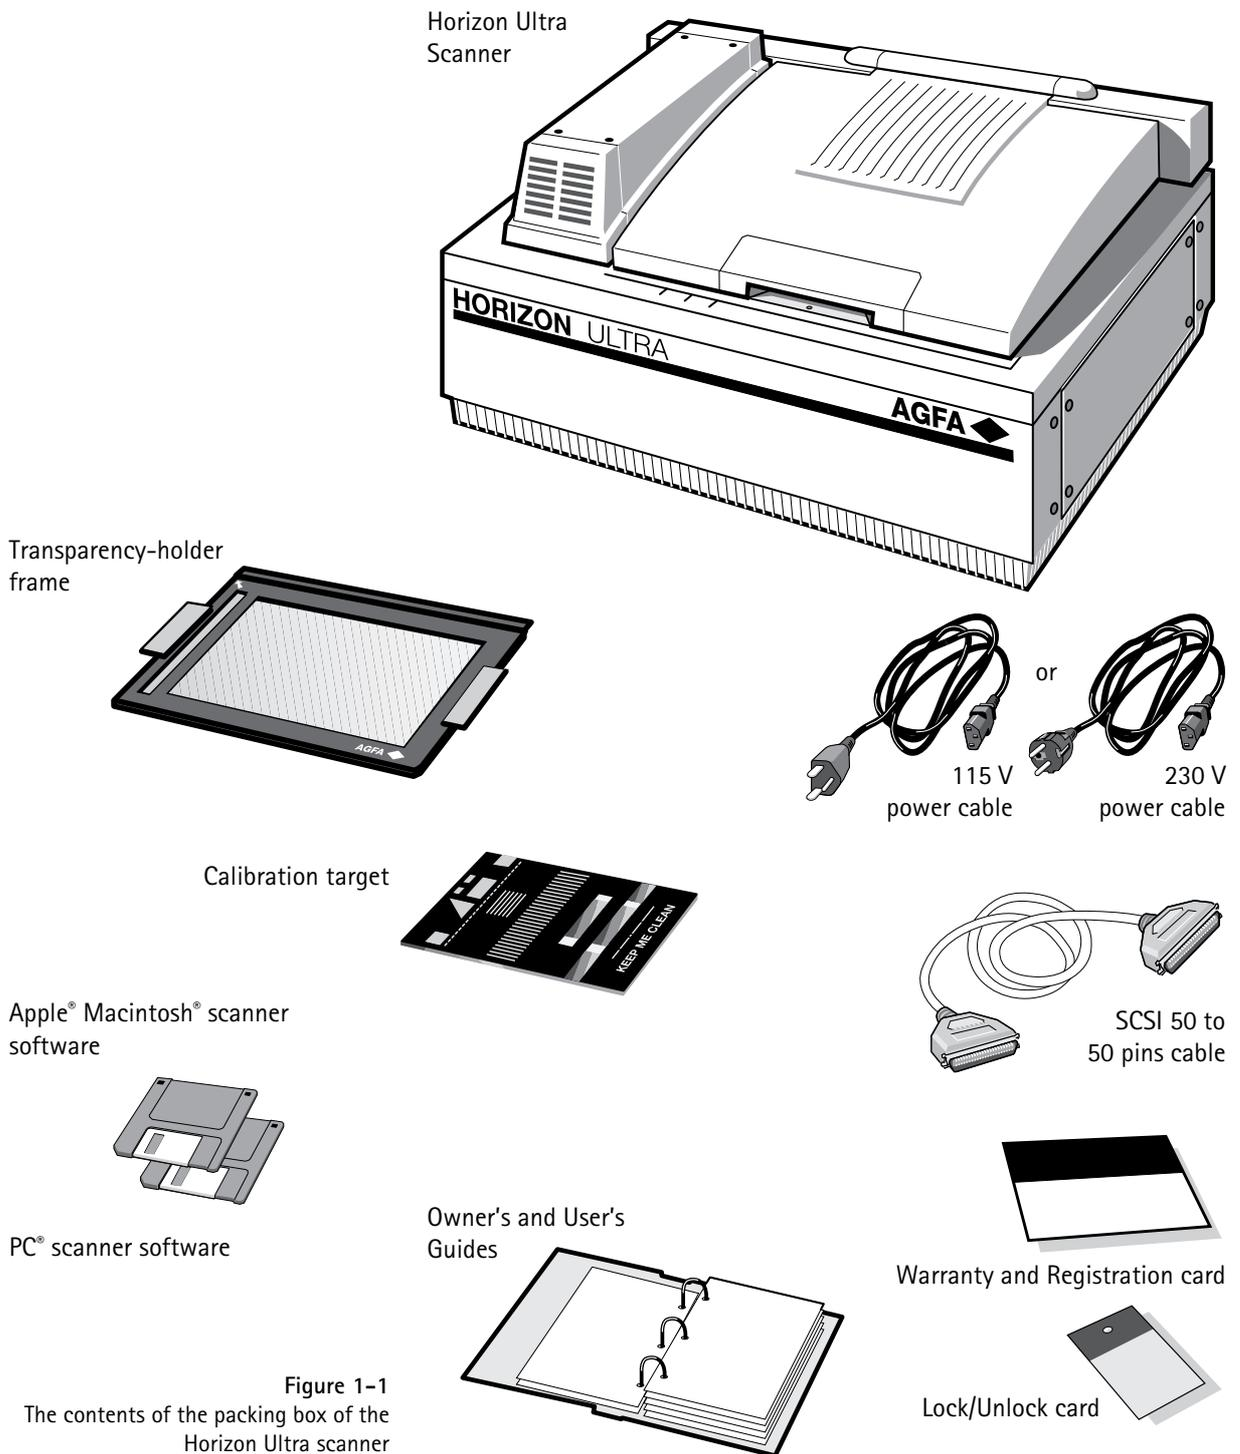

Figure 1-1
2. Check each item against Figure 1-1 to make sure that you have everything.